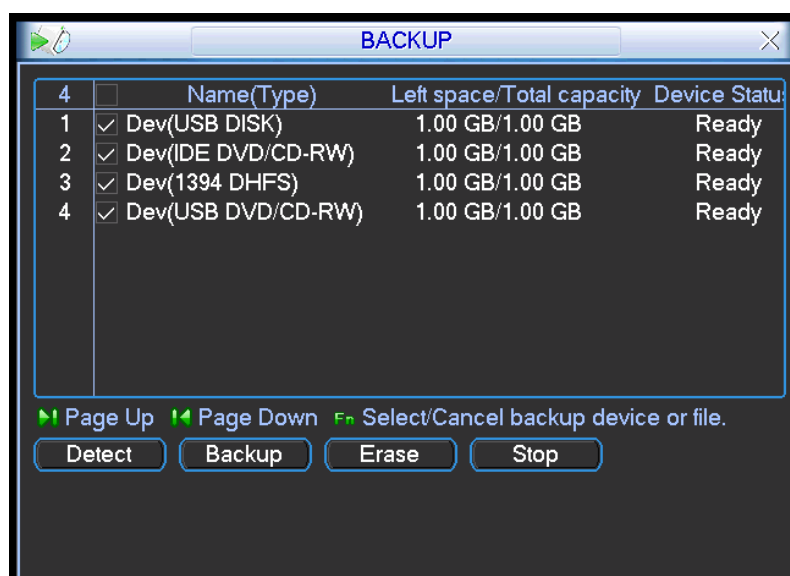

Figure 4-25
- **PTZ activation:** Here you can set PTZ movement when alarm occurs. Such as go to preset, tour& pattern when there is an alarm. Click “select” button, you can see an interface is shown as in Figure 4-25.
Here is for you to view devices information. See Figure 4-25.